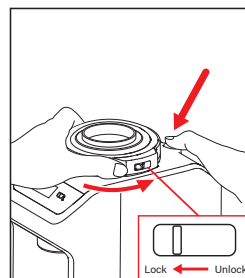

Fig. 10
3. To remove the grind collar, press and hold down the “RELEASE” button on the top of the grinder base and hold the collar grip tabs and turn anti-clockwise with the other hand (figure 10).